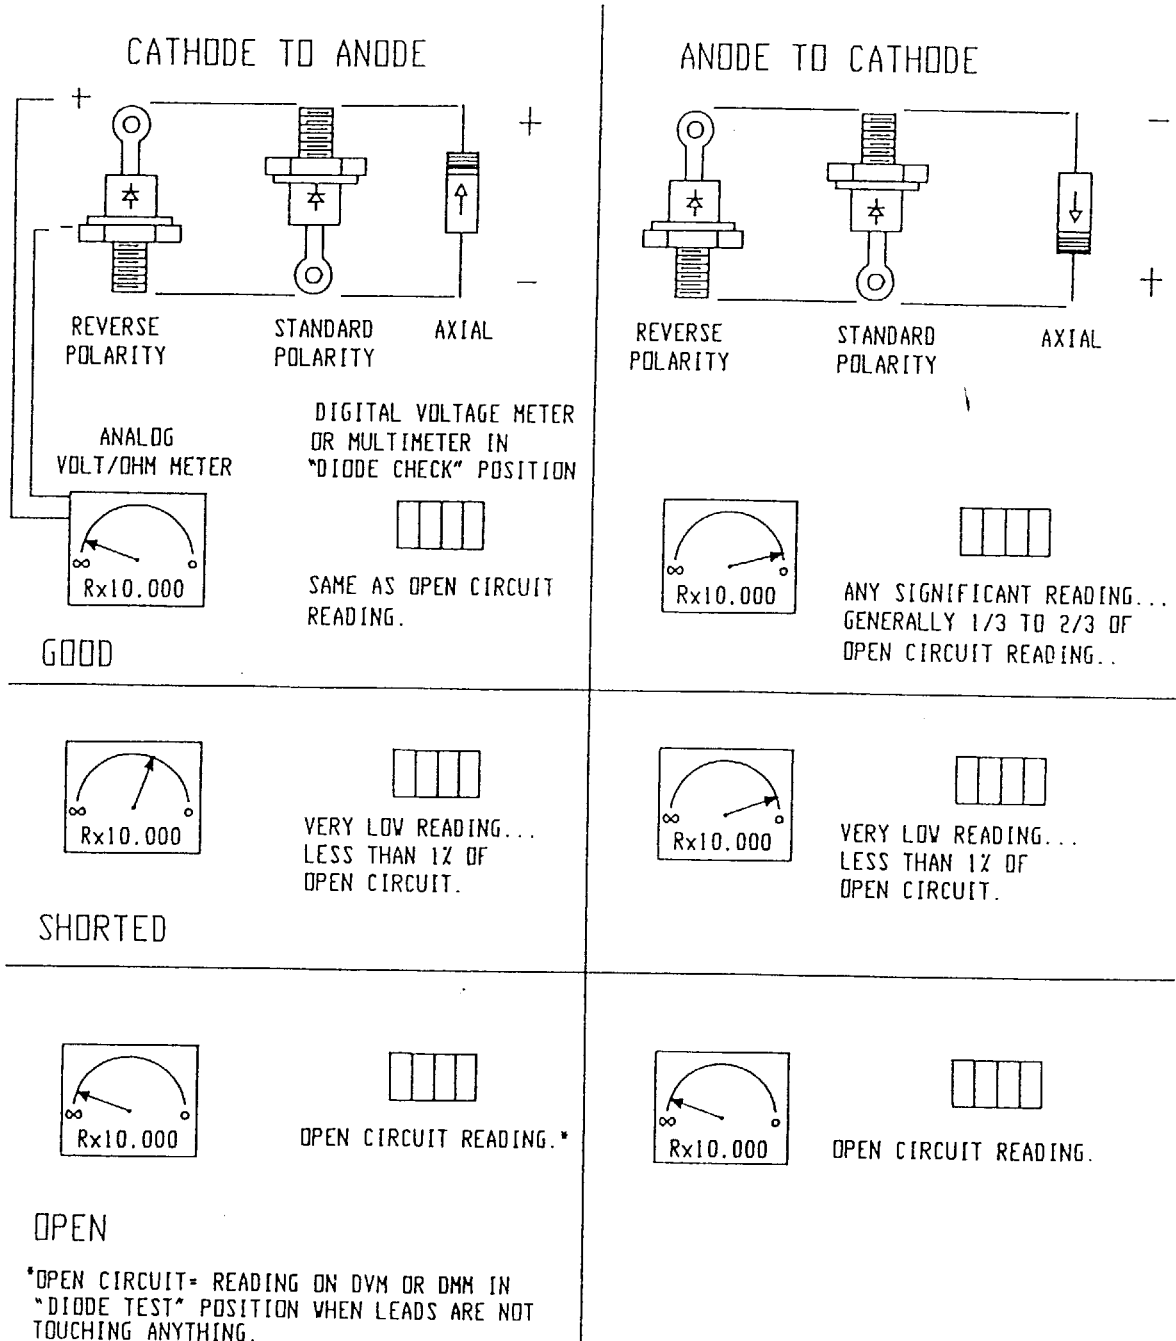

Figure 3-2. Diode Checkout Procedure
For stud-mounted diodes with normal or standard polarity, the stud is the cathode and the tab or flag is the anode. The diode symbol points from the tab to the stud. Reverse polarity diodes are the opposite, have an R in their number (R3720 or IN1184R) and a diode symbol that points from the stud to the tab. Diodes conduct anode-to-cathode and block cathode-to-anode (see Figure 3-2).
3. Using an analog Volt/Ohm meter in the "resistance" setting ($R \times 10,000$) or a Digital Voltmeter set to the "Diode Check" position, check out diodes according to Figure 3-2.